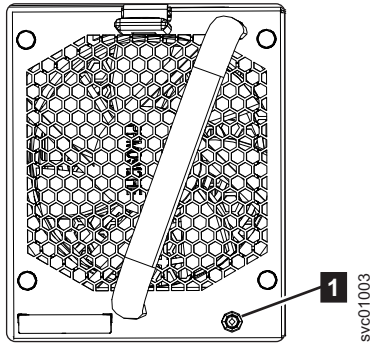

Figure 81. Fan module LED
1. Identify the fan module to be replaced. When lit, the amber LED on the front of the fan module ( **1** in Figure 81 on page 227) identifies a fault.